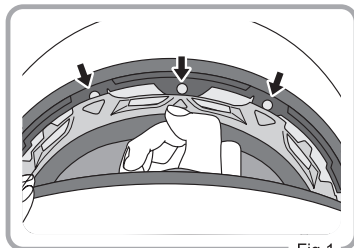

Fig.1
- 1.Undo the snaps at the forehead area by pulling them down as shown in Fig.1.